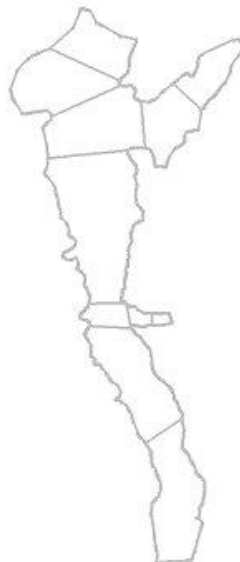

Figure 3 Segment Locations
2. Use Figure 3 as a guide to create feature arcs (segments) where indicated using the following two steps (Remember that it is unnecessary to create segments where branches were defined previously).